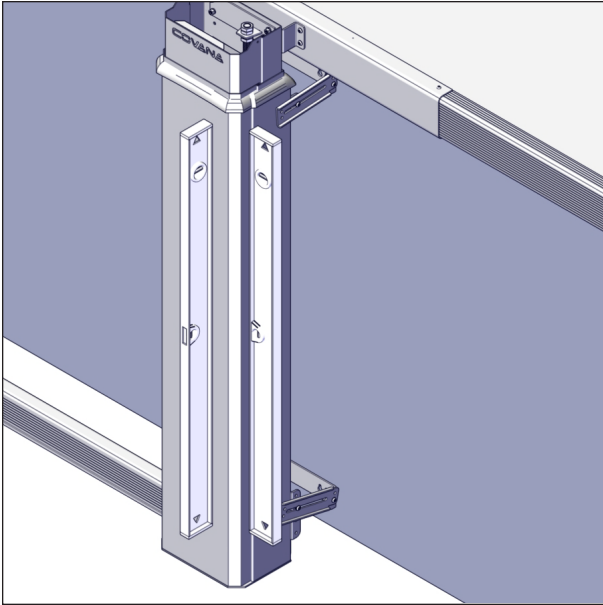

FIGURE 80: POST LEVEL ADJUSTMENTS
22. Use a 48" long level to ensure that the four posts are vertically level, see Figure 80.
25. Check if the posts are still level on both vertical axes. If not, unscrew the mount arms and reposition the sleeves. Use the outer sleeve as a reference. Use the 48" (122 cm) level, see Figure 80.